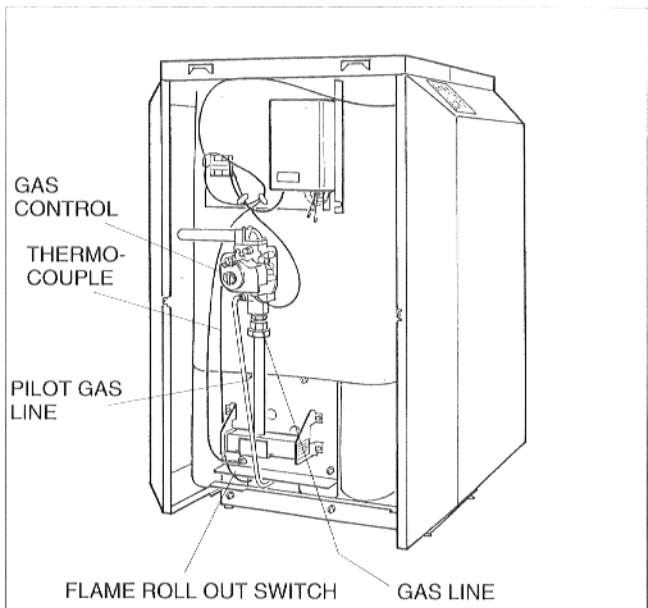
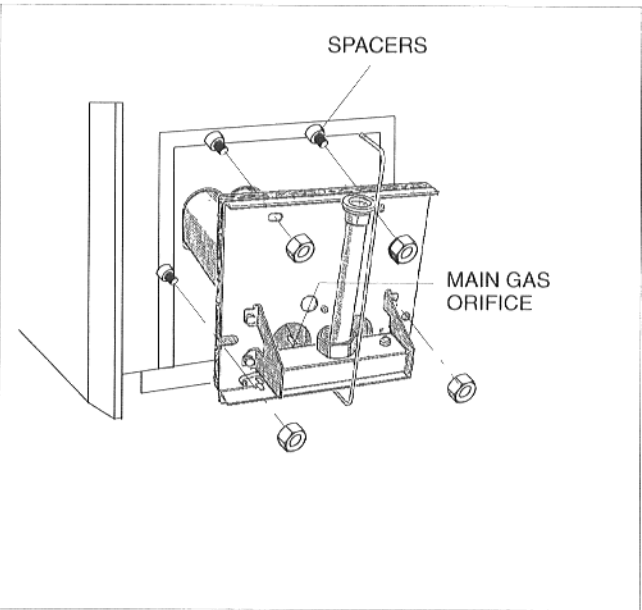

Fig.3
Fig.5
4. Disconnect the pilot line from the gas control, fig.3.
5. Disconnect the thermocouple from the gas valve, fig. 3
13. Disconnect the union between the gas valve and the manifold. Place the gasket from the union in a safe place, fig. 3.
14. Label the flame roll-out switch wires and disconnect the wires from the flame roll-out switch, fig. 3.
15. Remove the 4 nuts and washers that secure the burner assembly to the boiler and remove the burner assembly from the boiler, fig. 3 and fig. 5.
16. Remove main gas orifices and washers from burner assembly fig. 5.
23. Install the burner assembly in the boiler in reverse order of removal. Ensure the spacers shown in fig. 5 are in place before installing the burner assembly in the boiler. Ensure the nuts are tightened firmly.
27. Reconnect the pilot gas line to the gas valve, fig. 3.
28. Reconnect the thermocouple to the gas valve, fig. 3.